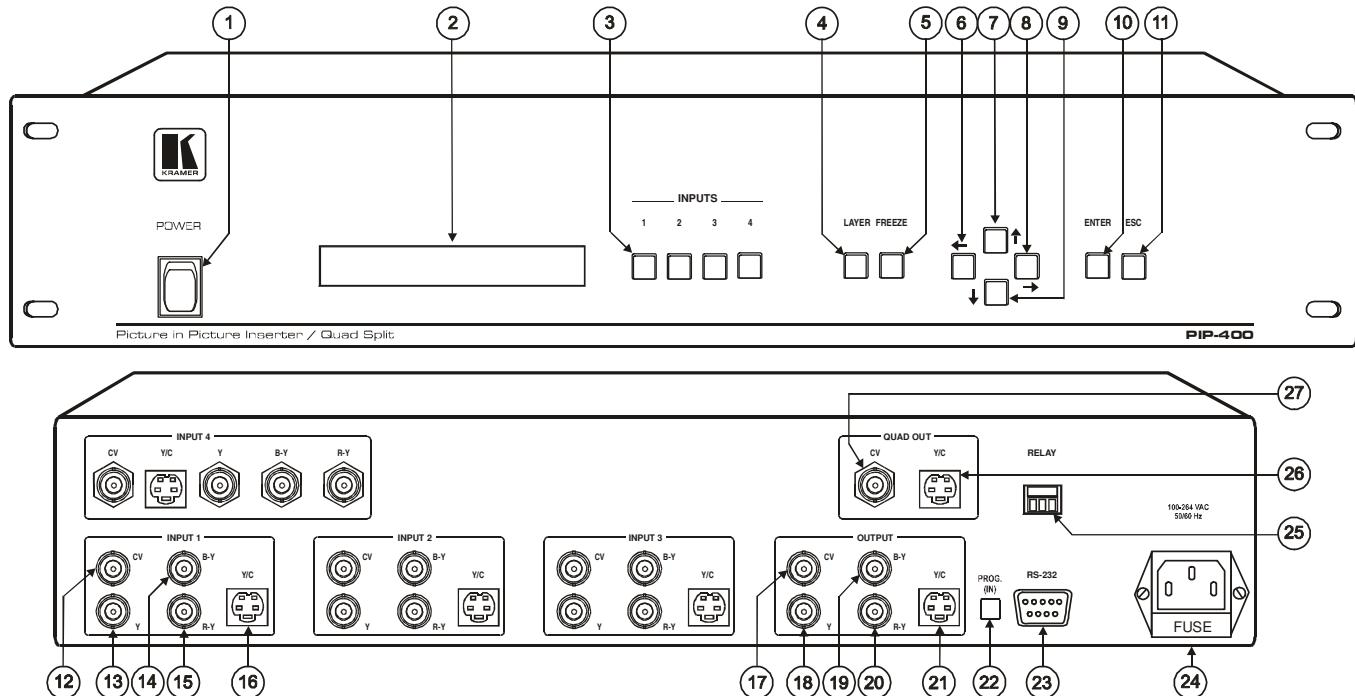

Figure 1: PIP-400 Picture in Picture Inserter / Quad Split
- Figure 1 illustrates the **PIP-400 Picture in Picture Inserter / Quad Split**